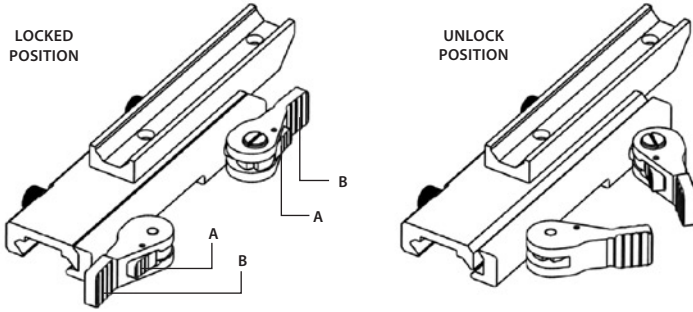

FIGURE 3-4. VULCAN MOUNT. TOP VIEW
1. Unlock the clamping device of the Vulcan mount by pushing down on the lever holders (A, see Figure 3-4) and unlocking the levers (B).
3. Affix the Vulcan to the rail by locking the levers (B, Figure 3-4).